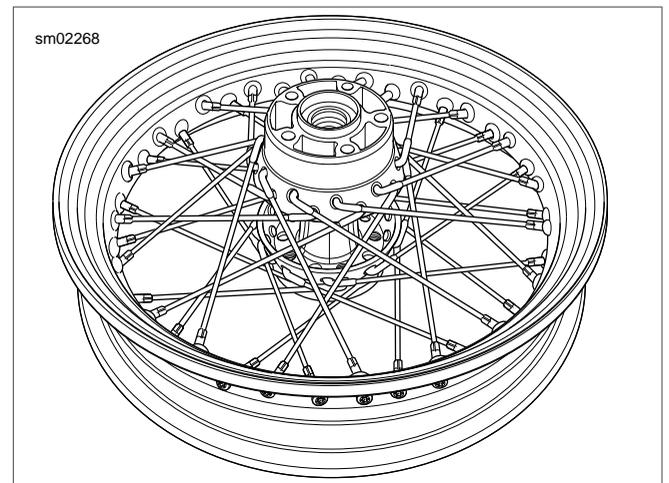

Figure 2-24. Wheel Completely Laced
10. See Figure 2-24. Install remaining nine upper row spokes into hub and rim.